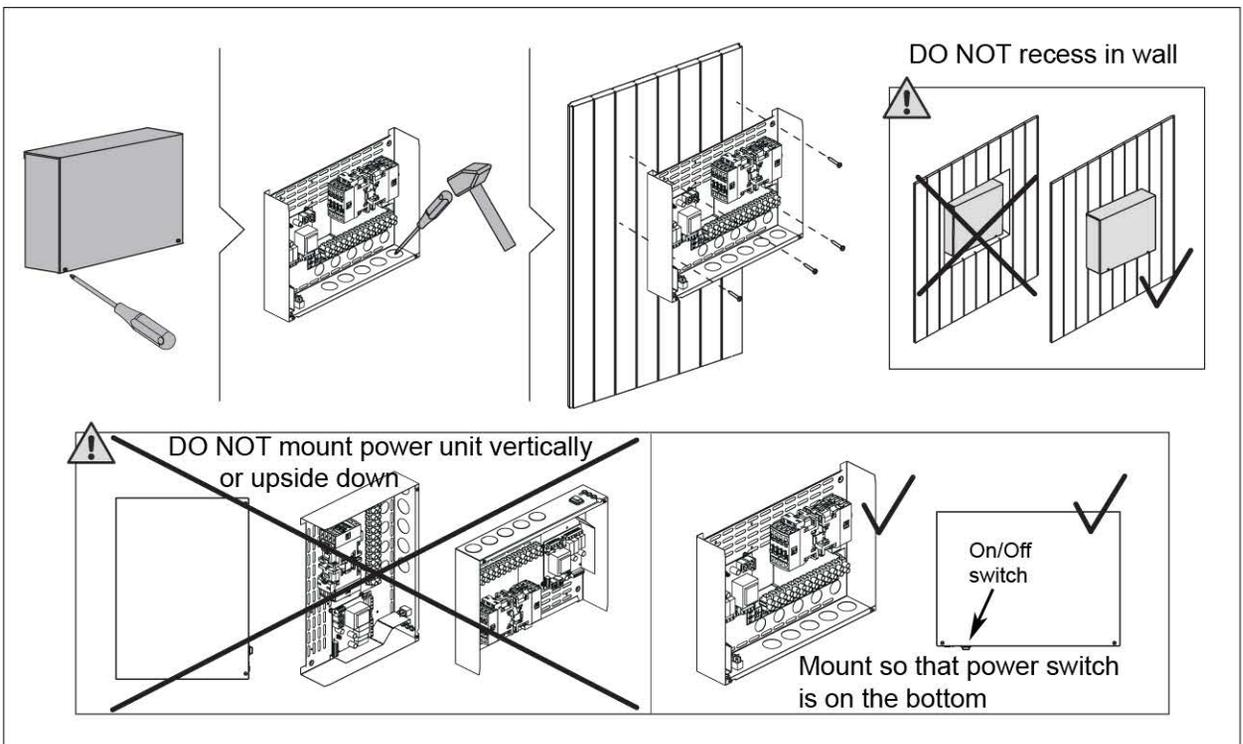

Figure 5. Opening the power unit cover and mounting the unit to a wall
Install the power unit to a wall outside the sauna room, in a dry place with an ambient temperature more than 32 °F (0 °C). See Figure 5 for instructions on how to open the power unit cover and how to fix the unit to the wall.
**Note!** Do not embed the control unit into the wall, since this may cause excessive heating of the internal components of the unit and lead to damage. See Figure 5.